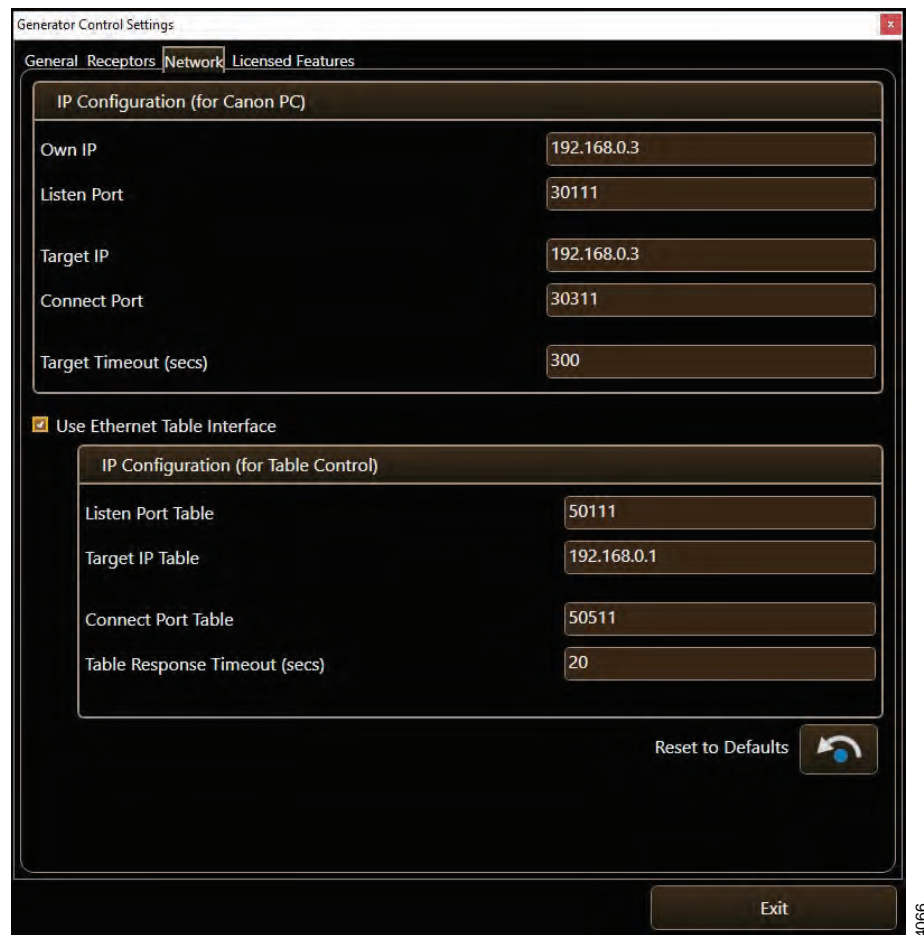

Fig. 5-9
7. The network settings shall be configured according to Fig. 5-9 .